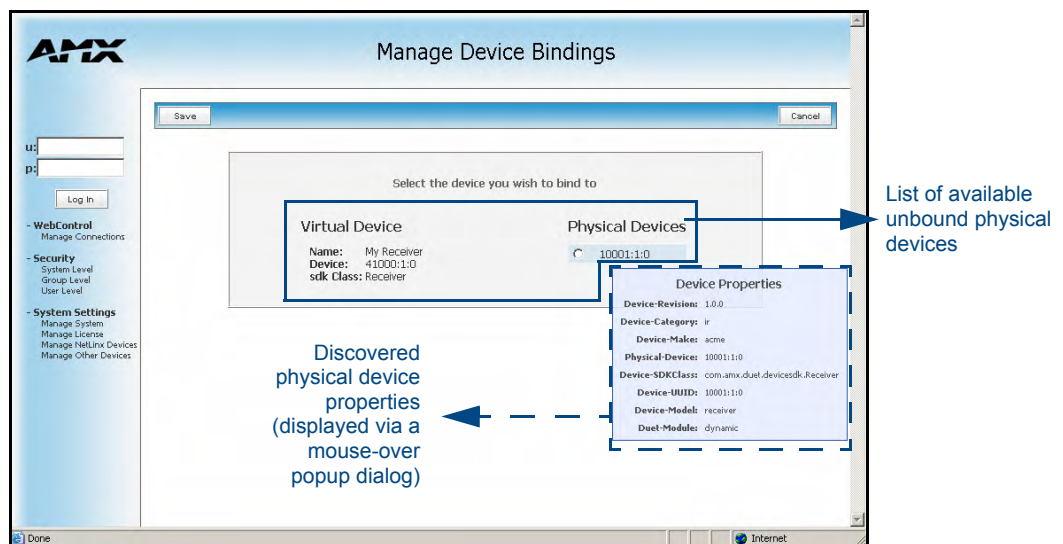

FIG. 67 Manage Device Bindings - showing a listing of all unbound devices
- Dynamic application devices that have not been bound to a physical device display a **Bind** button. When this button is selected, a secondary display appears with a listing of all available unbound physical devices that match the application device's Device SDK class type (FIG. 67).
- A mouse-over popup dialog is provided to display the properties associated with each discovered physical device that is listed (FIG. 67).